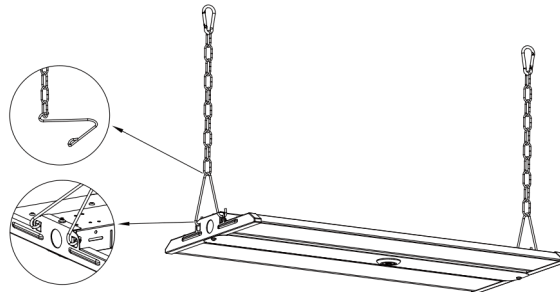

Figure 1
Step1. Hook up the chain; (Figure1)
Step2. Connect the chain with fixture; (Figure 1)
step3. Fix the chain on the rail, adjust the chain length as per need; (Figure 1)